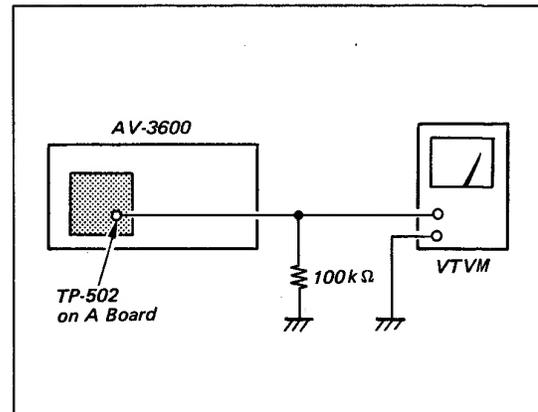

Fig. 7-2. Audio playback level and frequency response adjustment set-up
Set-up : See Fig. 7-2.
1. Connect the ac VTVM to TP-502 using a 100 kΩ load resistor as shown in Fig. 7-2.